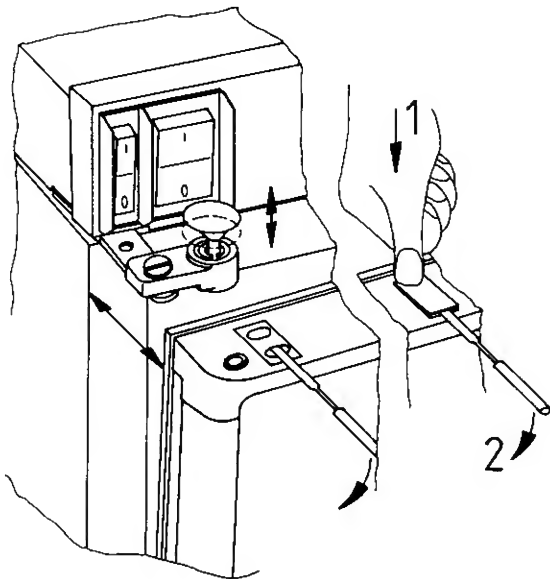

Fig. 1
- On the upper edge of the door are two plastic inserts for the alternative holes of the travel catch. Pry out carefully and exchange (fig. 1)